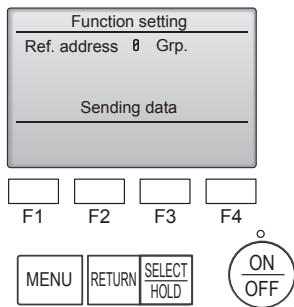

Fig. 7-16
- ⑥ (Fig. 7-16)
- ① Going to the function select mode